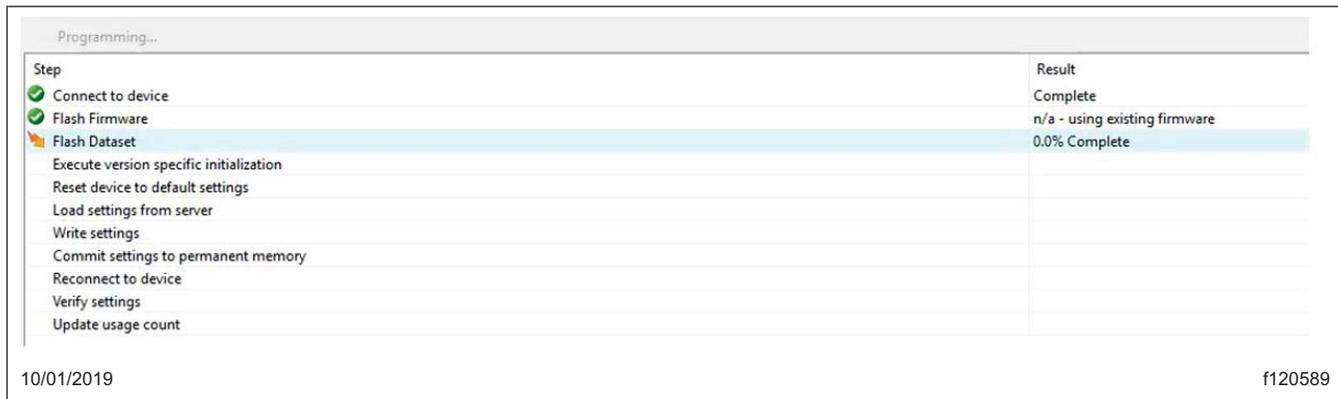

Fig. 7, DiagnosticLink Software Download Page
14. Click Start. DiagnosticLink will begin to install 7.43 software on the BHM. See Fig. 7.